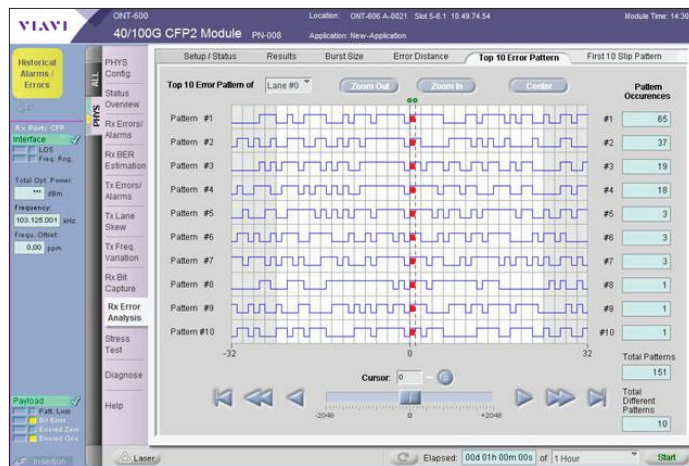

Figure 8. Top 10 error patterns overview
The screen in Figure 8 shows the top 10 patterns that lead to a bit error. In this case, most of the errors occur after a run of ones (1) followed by an isolated zero (0). This result could have been caused by an incorrectly set threshold/slicer. Errors that are unrelated to pattern sensitivity typically have 'flatter' distribution patterns. (We cheated a little here because we set the lane 0 slicer level to an unrealistic +100 mV value to achieve the pattern sensitivity shown in Figure 8.)